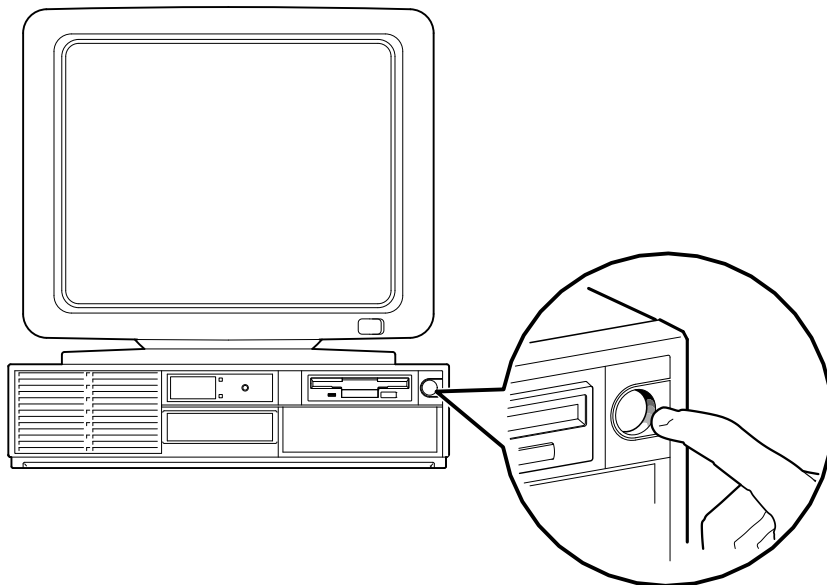

Figure 1-6. Starting Your System
1. Turn on the system unit power, monitor power, and any external devices. Figure 1-6 shows the location of the system unit power button.